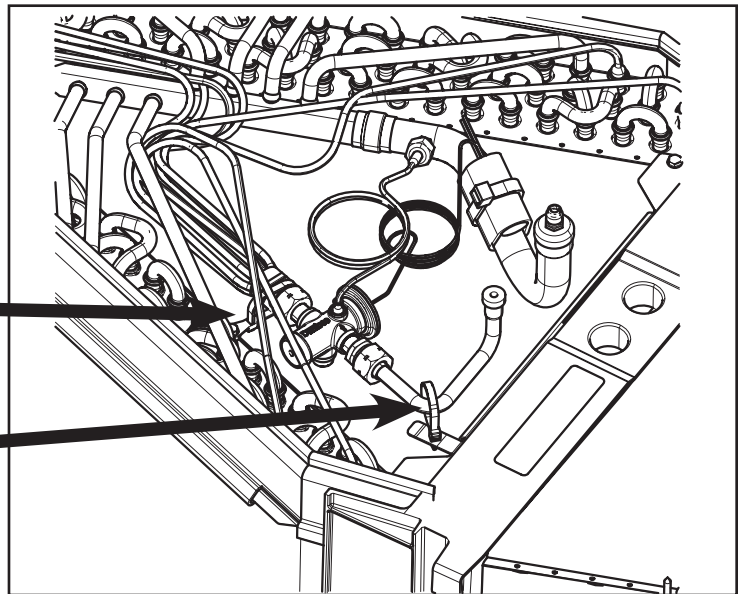

Figure 26 – Remove wire ties
4. Use wire cutters to remove two wire ties attaching the TXV flow control assembly to the coil as shown in Figure 26. Discard the tie cables. Save the screw removed in this step that held the screw-in tie cable for later use.